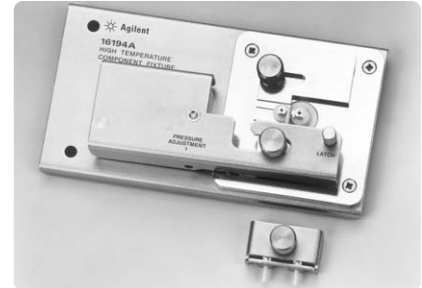

Figure 17. 16194A
- Accommodated SMD size: See Figure 17.